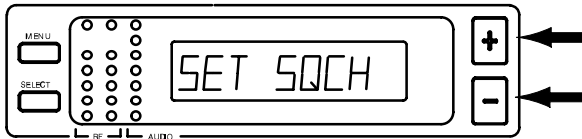

FIGURE 26
2. Press either the + or – button to reach the "SET SQCH" display, shown in Figure 26.